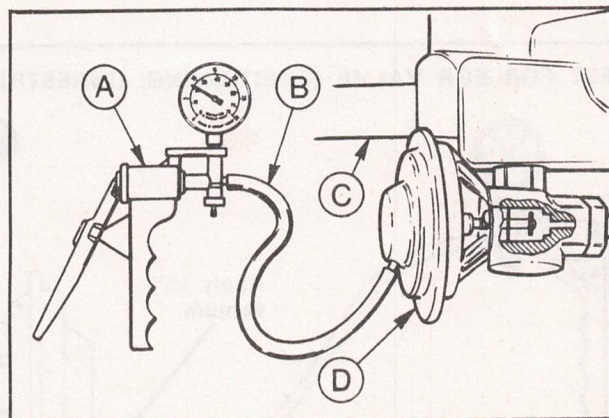

Fig. 34. — EGR Test lay-out.
1. Disconnect and plug the EGR valve vacuum supply pipe and connect a hand vacuum pump shown in Fig. 34.